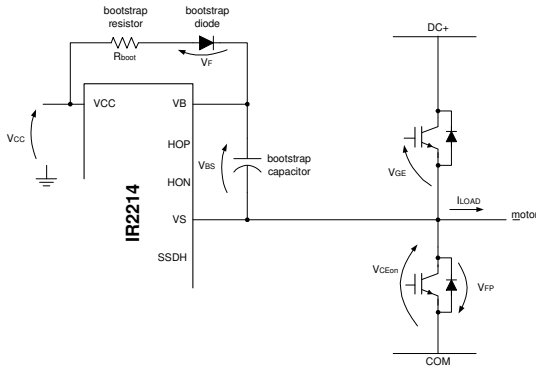

Figure 19: Bootstrap Supply Schematic
In the high side circuit, the desaturation biasing current may become relevant for dimensioning the bootstrap capacitor (see Fig. 19). In fact, a pull up resistor with a low resistance may result in a high current the significantly discharges the bootstrap capacitor. For that reason, the internal pull up resistor typical value is of the order of 100 kΩ.
The  $V_{BS}$  voltage provides the supply to the high side driver circuitry of the gate driver. This supply sits on top of the  $V_S$  voltage and so it must be floating. The bootstrap method is used to generate the  $V_{BS}$  supply and can be used with any of the IR211(4,41)/IR221(4,41) drivers. The bootstrap supply is formed by a diode and a capacitor as connected in Fig. 19.
Voltage Ripple: There are three different cases to consider (refer to Fig. 19).
**Bootstrap Resistor:** A resistor ( $R_{boot}$ ) is placed in series with the bootstrap diode (see Fig. 19) in order to limit the current when the bootstrap capacitor is initially charged. We suggest not exceeding 10  $\Omega$  to avoid increasing the  $V_{BS}$  time-constant. The minimum on time for charging the bootstrap capacitor or for refreshing its charge must be verified against this time-constant.